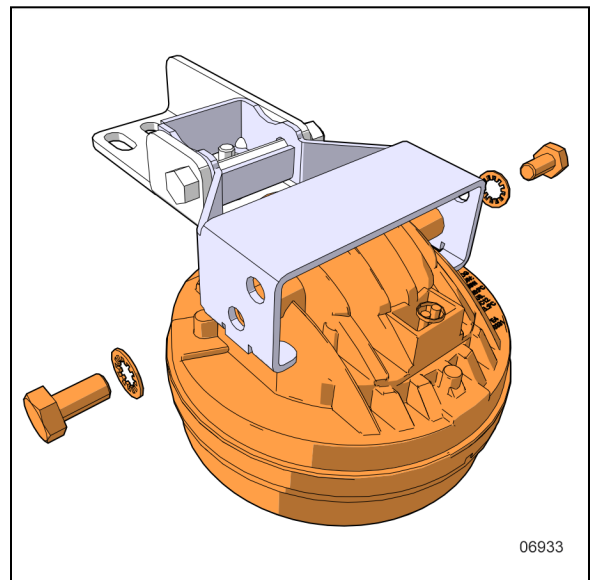

FIGURE 118: FOG LIGHT POD DISMOUNT
4. Install the new fog light pod on the pod support with the existing screws and lock washers (Figure 118).